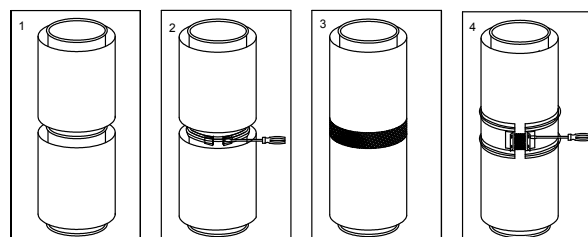

FIG. 16
**NOTE:** The flues of the 14" TG, 16" TG and 18" TG are installed flange to flange (diagram #1); the flues are retained by screwing a flange band over the mating flanges (diagram #2); the joint is then wrapped with insulation (diagram #3); and the joint is covered by a closure band (diagram #4). See **FIG. 16**.